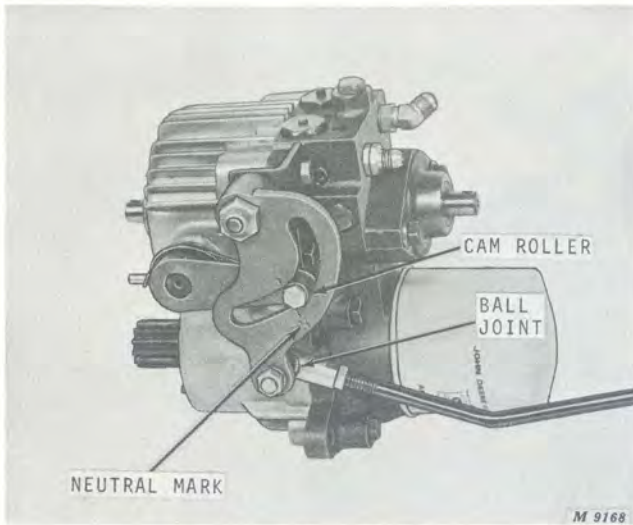

Fig. 4-Adjusting Control Rod Length
3. Remove control rod ball joint and align cam roller with neutral indicator mark (N) on cam, Figure 4.